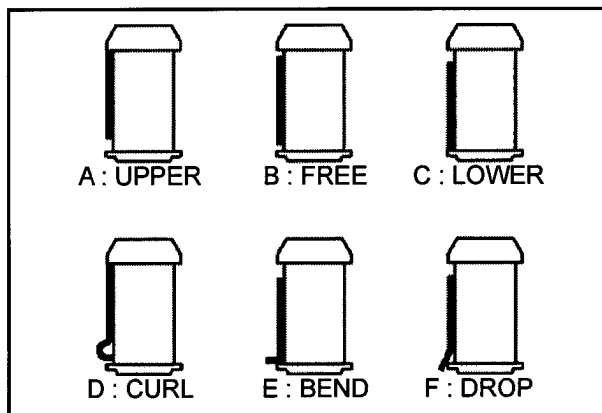

Figure 3-21-1
1. Perform 1x and -1x playback alternately. Confirm the CTL output level is within the specification in the figure 3-21-1. If it is out of specification, adjust the T5 and T6 Post Height.
3. Place the unit in the -1x playback again, and confirm that the CTL output level (C1/ C2) is more than 75% of the normal playback (CP1/ CP2). Also confirm that the limit condition of the P5 and P6 posts are as shown in figure 3-21-1.